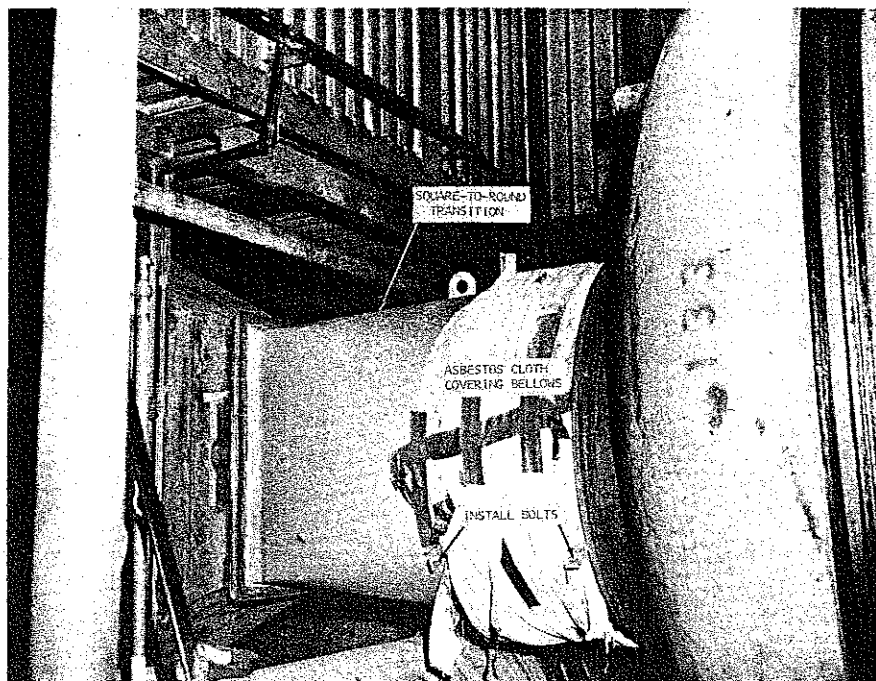

FIG. 4 PREPARATION FOR SCARFING
- h. Use asbestos cloth and cover the expansion joint bellows, instruments, and instrument lines near the cutting and welding operations area. This keeps hot slag from burning through the thin metal joints and lines. (Fig. 4)
- a. Install 5/8" x 16" bolts in the lugs on the PG line expansion joints as follows (Fig. 4):